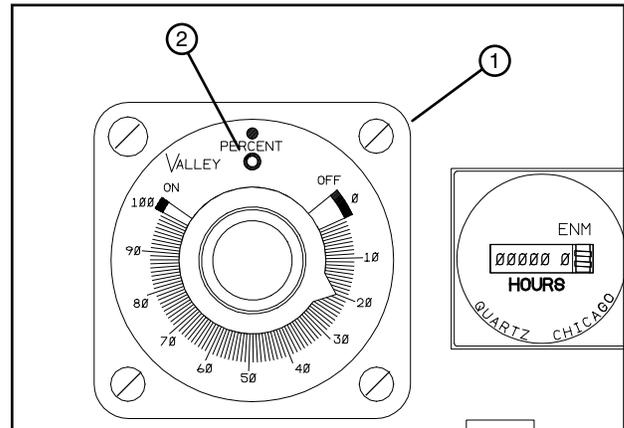

Figure 31-1 ATC Percent Timer Shown
1. Set the percent timer to 20% on the dial. See Figure 31-1.
| <p>The Eagle HQ4E has an indicator light that is ON solid during the timer ON cycle. It blinks twice per second during the timer OFF cycle. See Figure 31-1.</p>  | <p>The ATC 304GX has an indicator light that is ON solid during the timer OFF cycle. It blinks at a variably increasing rate during the ON cycle. See Figure 31-1.</p>  |